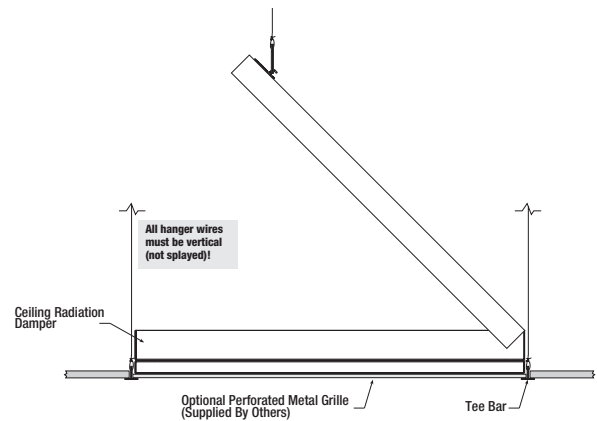

Figure 3
- Models CRD-1, CRD-1LP, CRD-3, and CRD-60 may be installed as shown in **Figure 3** (Model CRD-3 illustrated).